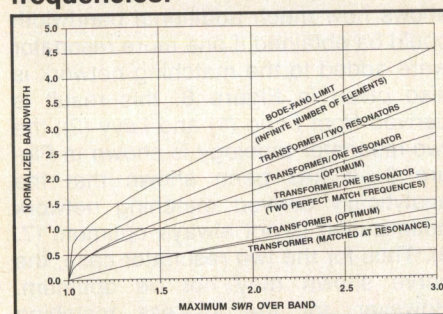
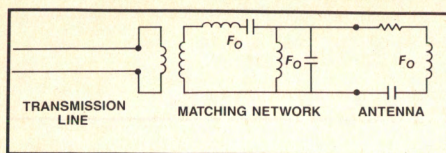

Figure 8. Normalized bandwidth versus maximum SWR over the band for the lossless matching network case.
Figure 9. Transformer/two-resonator matching.
Much has been reported regarding the design of optimum matching networks when the load is complex. In these analyses, the assumption has usually been that the matching network is made up of lossless elements. In order to compare the results of this investigation with the earlier results, it is necessary to set $\delta=0$. The comparison may be made by showing the relationship between the normalized bandwidth and S_M , the maximum SWR over the operating band (Figure 8); equations 6 and 8 provide the required formulas for the dipole matched at resonance and optimum transformer matching, respectively. For the case of transformer/resonator optimum bandwidth matching, from equation 23,
In addition to the relationships derived above, Figure 8 gives the Bode-Fano limiting case (1), which shows the maximum bandwidth theoretically attainable with an infinite number of elements in the matching network. For this case,
The cases of transformer and transformer/resonator matching for maximum bandwidth exactly coincide with Fano's (1) results for the equivalent situations; his results were achieved using a more general technique, which involved a graphical solution for the final result. Incidentally, the terminology of Fano is different than that used in this paper, but the necessary translations were made to prepare Figure 8.
For comparison, the case which shows how much additional bandwidth could be obtained if one more resonator were added to the matching network is also given in Figure 8. This result is derived from Fano (1) and Levy (2); the two-resonator topology is shown in Figure 9. It has been shown that the analytically derived matching network optimization is not always optimum (7, 8). Thus for the two resonator case, the curve shown may not be optimum. However, for the lossless matching network cases presented in this paper, it may be shown that the true optimum has indeed been found.